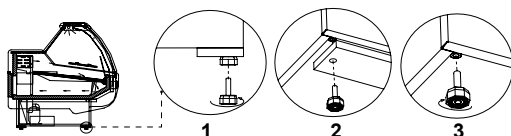

Fig.3 Removing the wooden platform
- Unpack the device and remove the wooden platform from the basis (does not concern moving devices) Fig.3